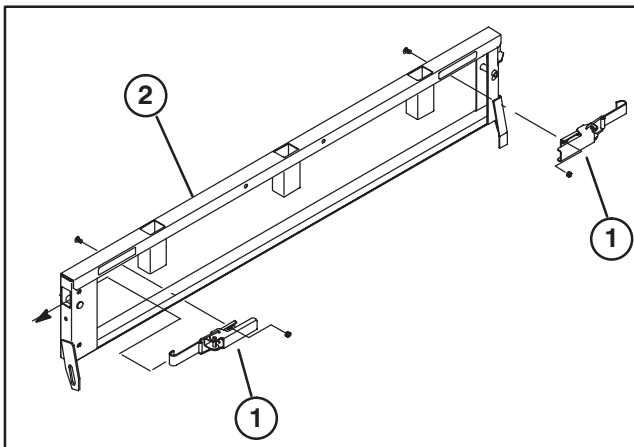

Figure 1
1. Loosely mount (2) latch assemblies to left and right side panels as shown in figure 1. Secure each latch to side panel with (2) 5/16-18 x 5/8" lg. carriage bolts and flange (Whiz Lok) locknuts. End of latch to be inserted through slot in side panel channel.